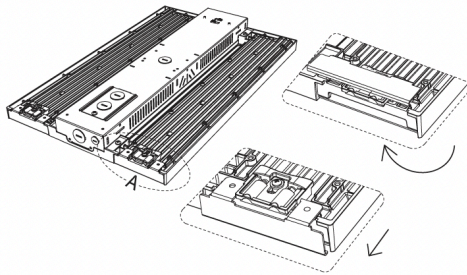

Figure 1
1. Push the retaining clasp with your finger to open the lens retaining plate in a rotating manner so that it falls into the slot of the heatsink. (Figure 1)